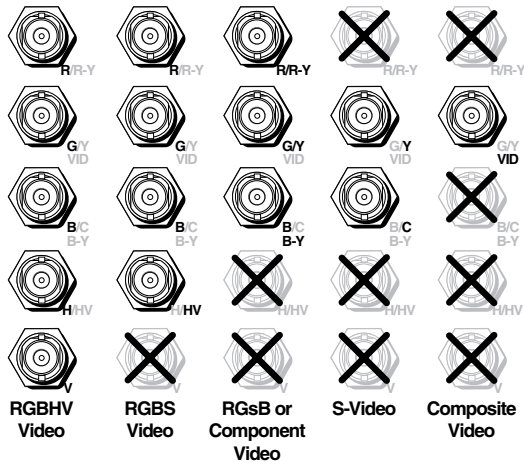

Figure Q-1 — Video format for BNC connections
- Pass-through outputs** — Connect video devices to the BNC connectors for outputs 1 and 2. Connect cables as shown in figure Q-1.
- Install any optional output boards** (see figure Q-3), and connect the relevant display device to the BNC connectors on the boards. See figure Q-1 for cabling format.